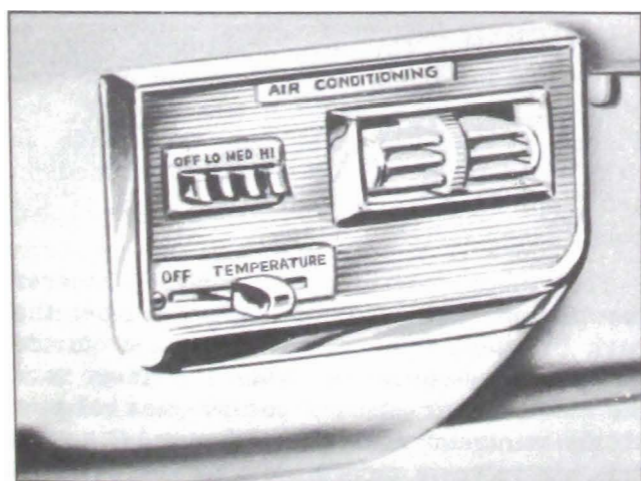

Figure 11-19—Air Conditioner Controls
9. Controls. The air conditioner controls which are located in the evaporator case consists of four push buttons and a lever. See Figure 11-19. The push buttons provide an "Off" and three blower speeds (low, medium and high) and control the operation of the compressor clutch.
2. Depress "Hi" button on evaporator case. See Figure 11-19. (This turns blower on high speed and starts compressor.)